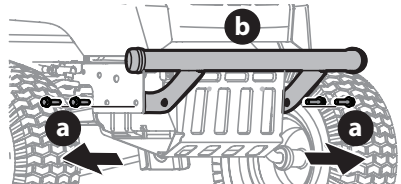

Fig. 60
1. Remove the four hex screws (a) securing the front bumper in place (Fig. 60).
2. The front bumper (b) may now be removed (Fig. 60).